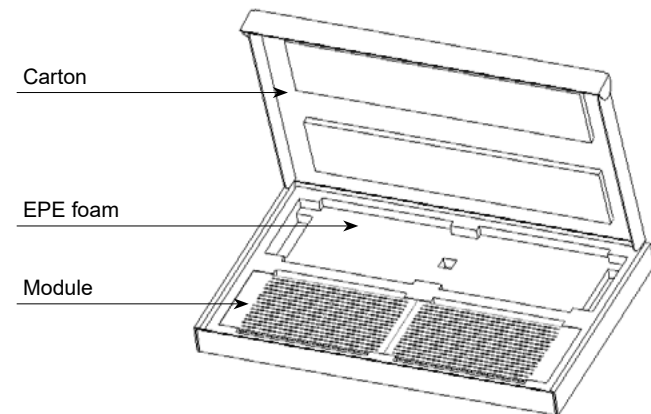

Figure 3.1.1 Carton packaging diagram
3.1 Module Packaging (2 in 1) Figure 3.1.1